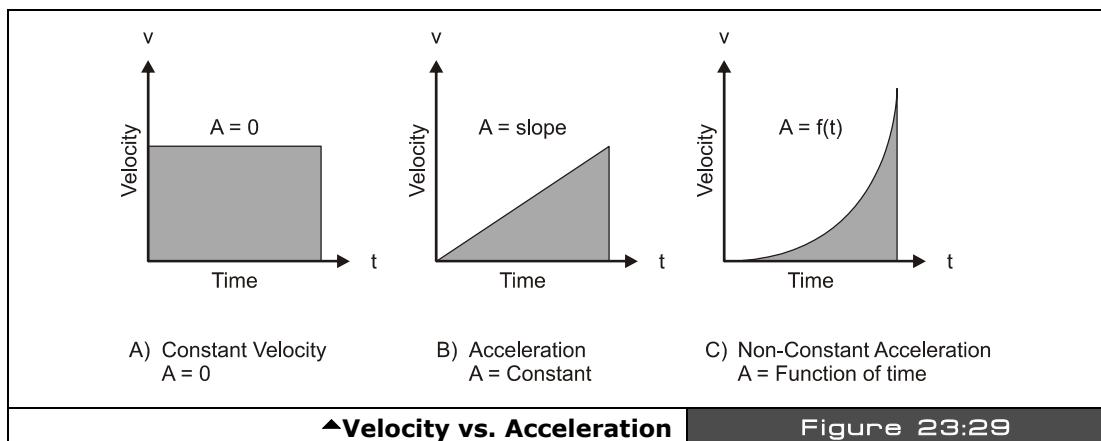

Figure 23:29
...which states that an object moving with velocity  $\mathbf{v}$  that starts at location  $x_0$  and moves for  $t$  seconds will move to the position equal to its original position plus the velocity times the time. Take a look at Figure 23:28 to see this more clearly.
Acceleration is similar to velocity, but it is the measure of the rate of change of velocity rather than the velocity itself. Take a look at Figure 23:29, it illustrates an object moving with a constant velocity as well as with a changing velocity. The object moving with a constant velocity has a flat line (slope of 0) for its velocity as a function of time, but accelerating objects have non-zero slopes since their velocities are changing as a function of time.
Figure 23:29(B) illustrates constant acceleration. There is also non-constant acceleration. In this case the line would be a curve in Figure 23:29(C). Pressing the accelerator in your car will give you the feeling of non-constant acceleration, while jumping off a cliff will give you the feeling of constant acceleration (gravity). Mathematically, acceleration is the rate of change of velocity with respect to time or: